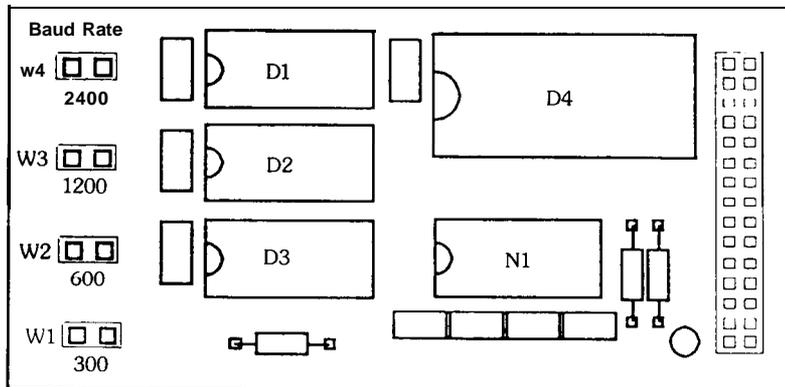

Figure 2.21 CDRM Layout
**CDRM:** (Option Module. Refer Figure 2.21)